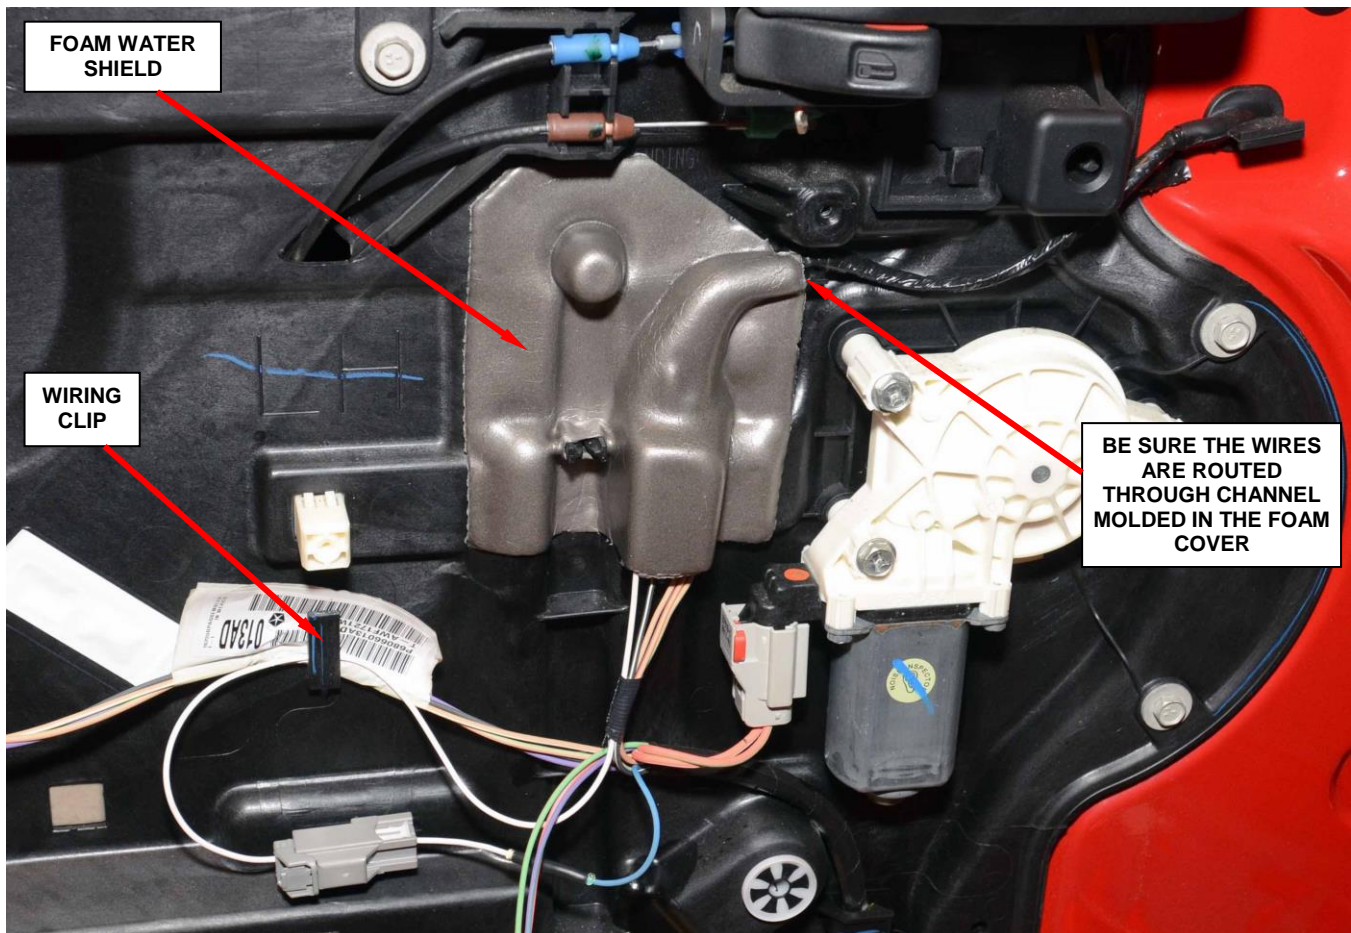

Figure 14 – Install Water Shield onto Door Module
25. Remove the release paper from the foam water shield and install the shield as shown in Figure 14.